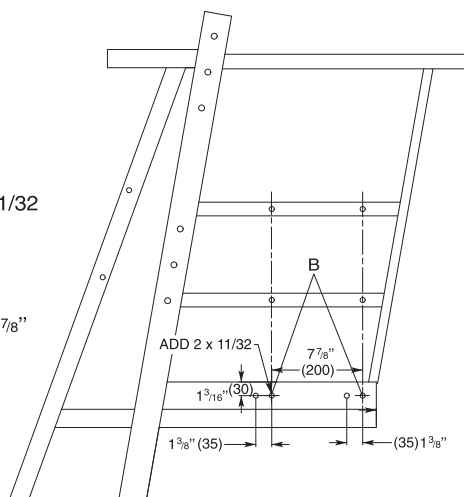
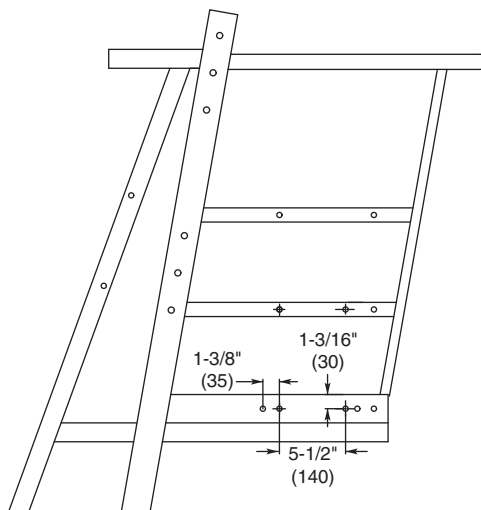

Fig. 9
Fig. 11
2. Position tank mounting bracket on the outside of the platform according to (**Fig. 9**) for 20 Gallon tanks, (**Fig. 11**) for 10/15 Gallon tanks. Clamp into position and mark hole location for the remaining bolts using previously drilled holes in bracket as a template. Drill (2) 11/32" holes.